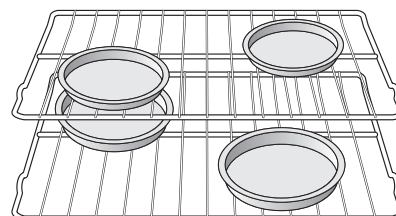
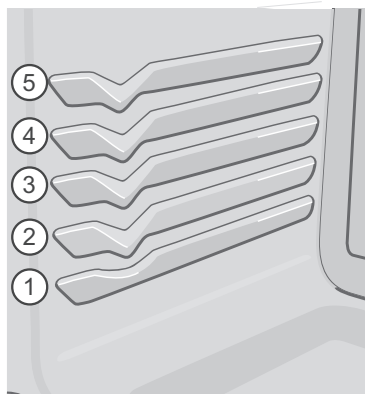

Figure 19: Pan spacing for convection baking
Figure 20: Rack positions
- When baking cakes using two oven racks, place bakeware in positions 1 (using glide rack) and 4 (using flat rack) (Figure 20) and place pans as shown in Figure 19.